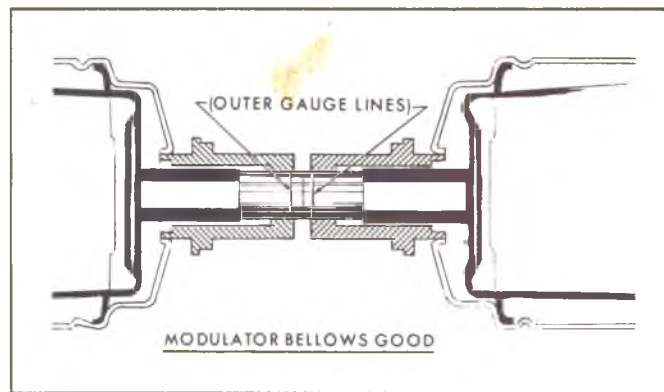

Fig. 38T—Modulator Bellows (Good)
- c. Holding the modulators in a horizontal position, bring them together under pressure until either modulator sleeve end just touches the line in the center of the gauge (Fig. 38T). The gap between the opposite modulator sleeve end and the gauge line should then be 1/16" or less. If the distance is greater than this amount, the modulator in question should be replaced.